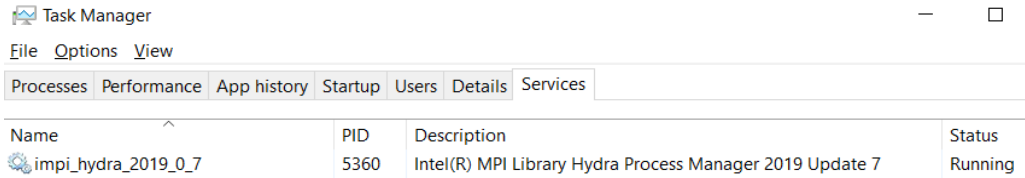
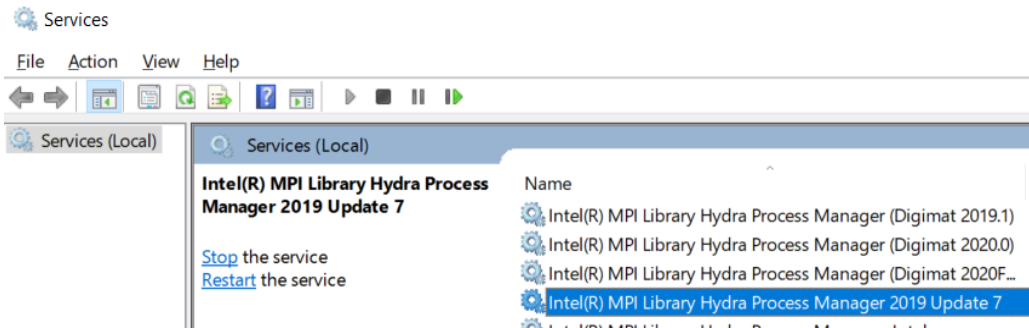
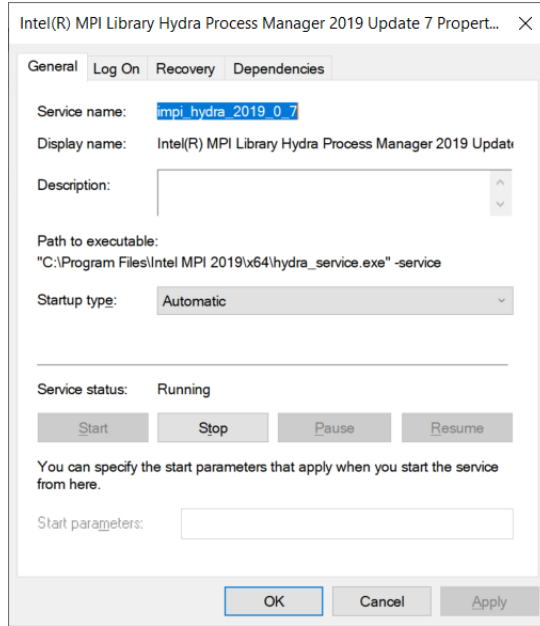

Figure 2-33 Intel-MPI 2019 hydra service in task manager.
Figure 2-34 Intel-MPI hydra service.
Figure 2-35 Intel-MPI hydra service installation directory.
When installing Digimat-RP/Moldex3D for fiber orientation estimation, Intel-MPI 2019 hydra service is automatically installed to allow parallel computation for fiber orientation estimation. The executables associated to the service are located in directory "C:\Program Files\Intel MPI 2019. It appears in Windows task manager with the name "impi_hydra" (see Figure 2-33 and Figure 2-34), corresponding to the executable named "hydra_service.exe". Only one instance of this service with "impi_hydra" name can run on a computer.
- Find the directory of Intel-MPI hydra service to be removed. This directory can be found by clicking on properties of the existing service (e.g., `C:\Program Files\Intel MPI 2019`), see Figure 2-34 and Figure 2-35. The name of the executable associated to the service (`hydra_service.exe`) can also be found in the properties of the service. Type in the command prompt: